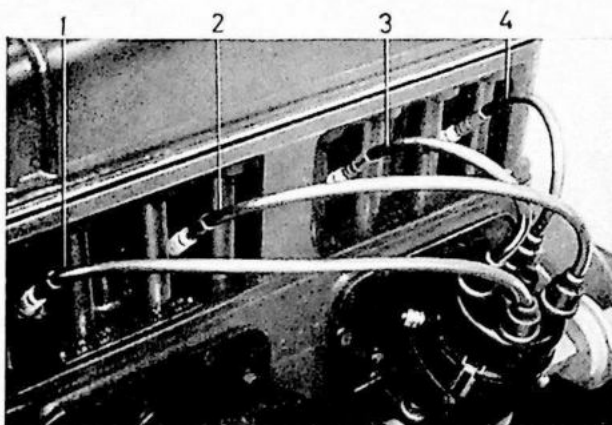

Fig. 65. Ignition cable attachments.
5. Check that the rotor points to the terminal leading to number one cylinder. Fit the distributor cap and cables as shown in Fig. 65. The rotor moves clockwise. The order of firing is 1—3—4—2.